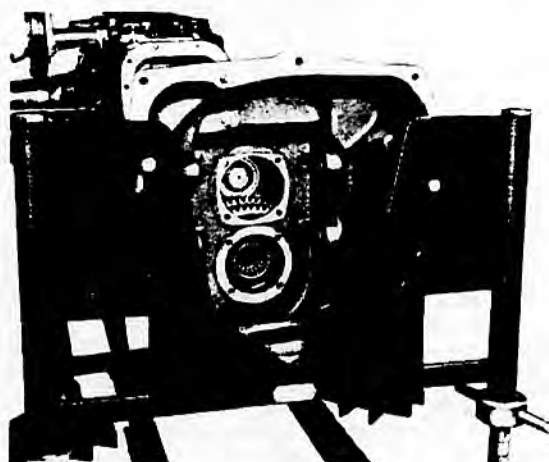

FIG. 14
10. Remove setscrews holding main drive shaft retainer and remove assembly. (See Fig. 14). Remove P.T.O. main drive gear.